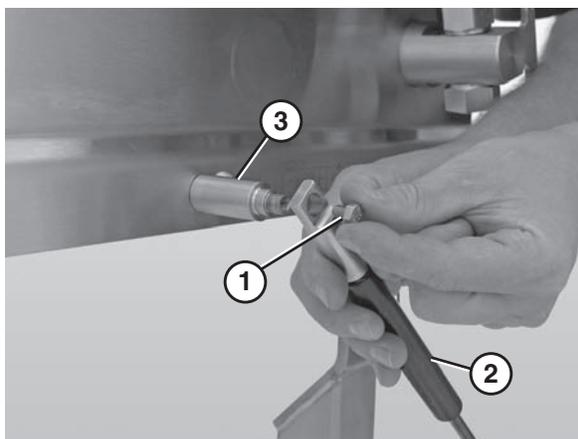

Figure 93
- Remove the hex bolt (Figure 93, item 1) that connects the gas spring (Figure 93, item 2) to the gas spring standoff post (Figure 93, item 3).
- Remove the inside hex bolt that connects the standoff post (Figure 93, item 3) to the frame.